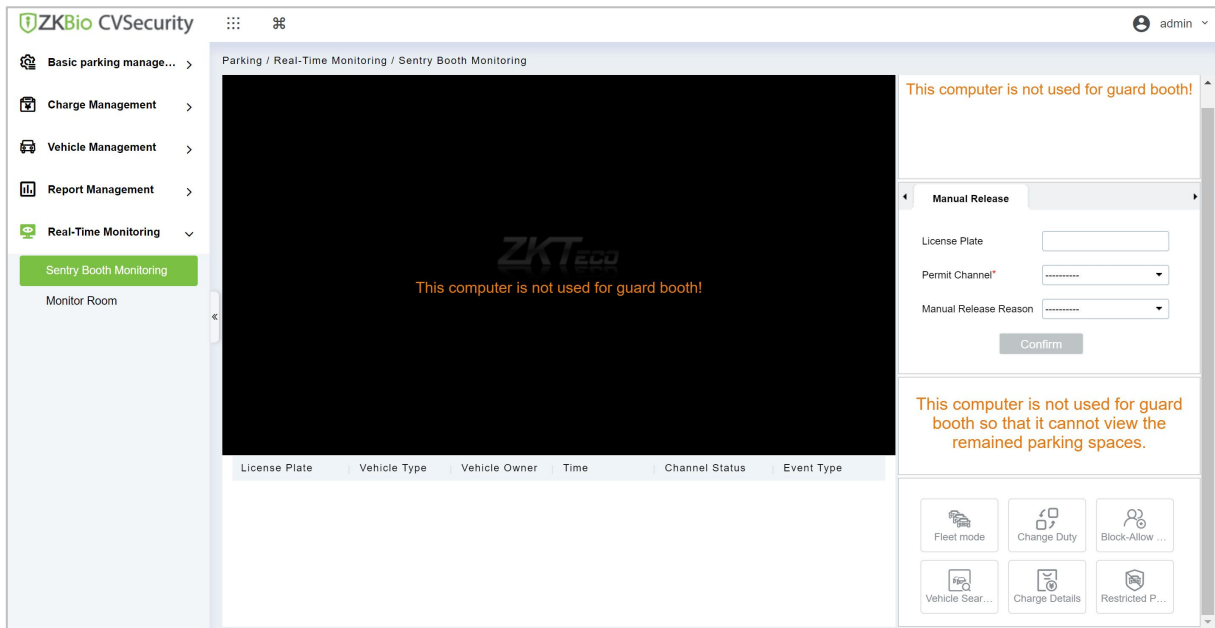

Figure 9-52 Manual Pass Interface
Step 2: Under manual release, the administrator can operate vehicle release here, and when the vehicle is not recognized, manual release can be performed, as shown in Figure 9-52.